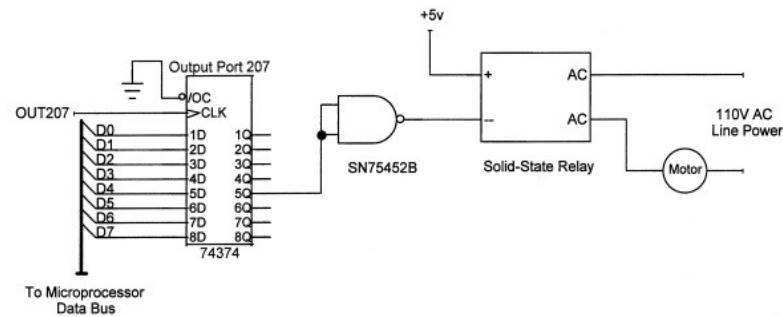

Figure 2-14
To illustrate how software controls devices, assume you want to turn on or off a pump motor using a solid-state relay connected to bit D4 at output port 207, as shown in **Figure 2-14**. (The relay would operate at position 5 on a Sealevel Systems' M280 card.) **Table 2-1** below shows the bits needed to control the motor using either positive logic or negative logic:
Given the decimal weight of bit D4 (16), and knowing the output-port number, you can use commands such as those below to control the pump motor shown in **Figure 2-14**: